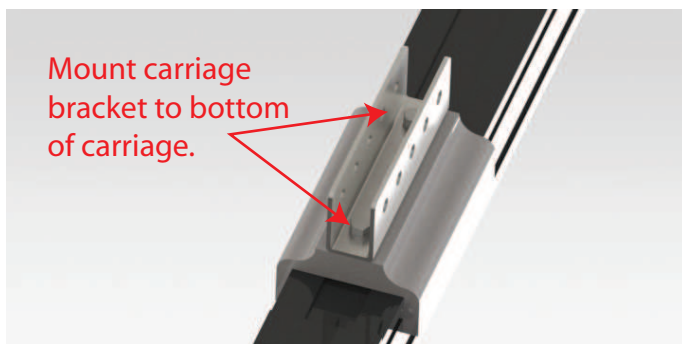

FIG. 2A
- 2-2: Mount the carriage bracket to the bottom of the carriage using (2) 5/16" bolts and lock washers. (FIG. 2A)